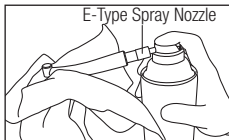

Fig. 17
- 3) Hold the handpiece, and spray for 2 or 3 seconds until oil comes out of the handpiece head (Fig. 17). Repeat lubrication until foreign material stops coming out of the tip.